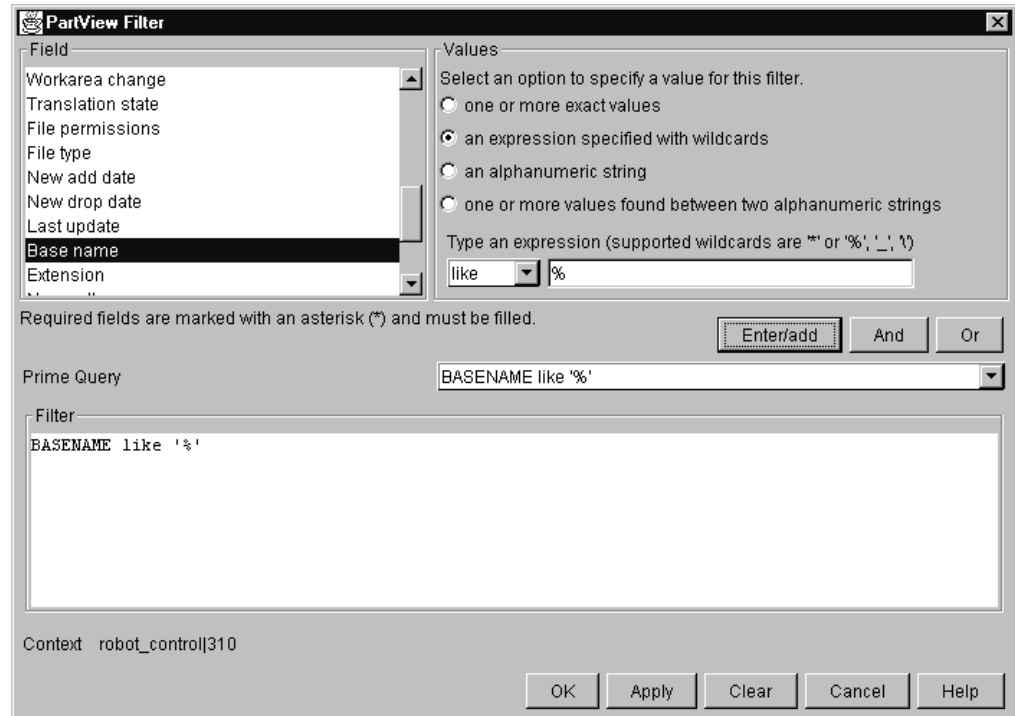

Figure 16. Part Filter window
- Selects the **Base Name** field, selects the "an expression specified with wildcards" radio button, types % in the field next to the Like combo box, and then selects the Enter/Add push button. When he is done, the filter looks like Figure 16 on page 55.